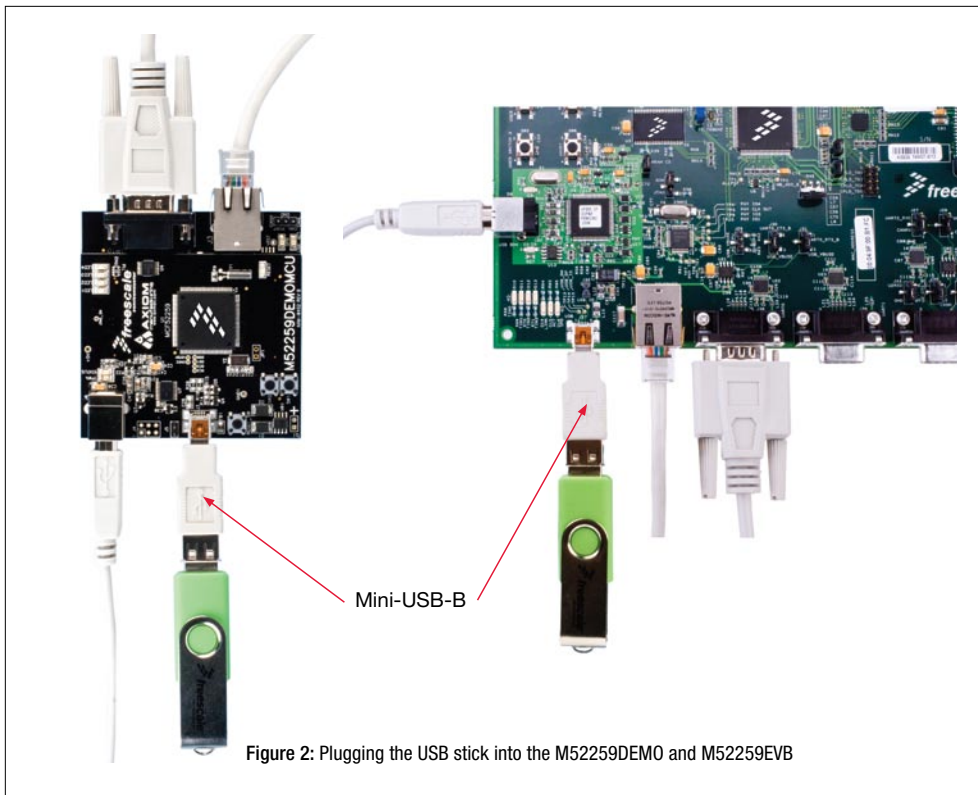

Figure 2: Plugging the USB stick into the M52259EMO and M52259EVB
5. Insert the USB memory stick into the USB connector on the board. You will need the mini USB-B adaptor plug. See Figure 2 on the next page.